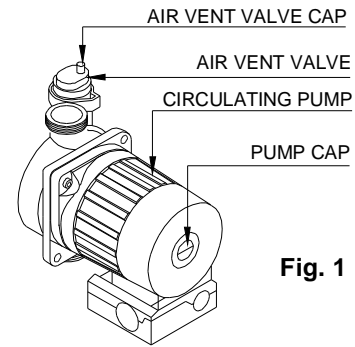

Fig. 1
- set the ON/OFF button (1) (see fig.1 pag. 19) to ON position ;
- make sure that no flashing value is on the display (14); if value 04 is flashing and no.8 light is ON it means water deficiency in the system: open the filling tap on the filling loop and fill the system until a pressure of 1.5 bar has been reached (light no.11 ON) and then close the tap on the filling loop;
- should the boiler fail to ignite: if the display (14) shows value 04 flashing, it is necessary to repeat the procedure of filling the system; if the display (14) shows value 01 flashing wait 3 minutes; set the ON/OFF button (1) to OFF position  and then ON position  (fig.1). It may be necessary to repeat the procedure a few times to purge air from the pipes;
- set ON/OFF switch (1) in OFF position  (fig.1 page 19), insert a gauge into the pressure point no.4 (fig.1 page 32). Turn ON the boiler and check the minimum and maximum gas pressure setting in accordance with values stated on the gas data plate (to check maximum gas pressure value, turn ON a hot water tap and check that the maximum pressure is equal to that stated on the gas data plate; to check the minimum gas pressure, close the hot water tap, and select WINTER mode, the pressure gauge will show the minimum gas pressure value for 10 seconds. If the pressure values are not the same as those stated on the gas data plate, calibrate pressure again;
- set ON/OFF switch in OFF position  (fig.1 page 19);